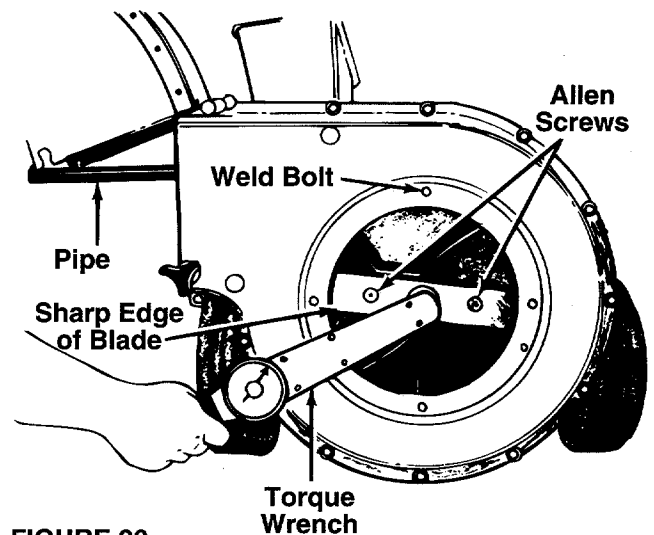

FIGURE 20.
- Lower the hopper assembly. Block up the housing. See figure 20.